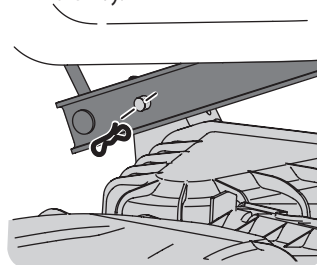

Figure 22
Looking at the deck from the left side of the tractor, locate the bow-tie pin on the rear left side of the deck. See Figure 22.
- Remove the pin and slide the deck pin out of the deck lift arm. See Figure 22.